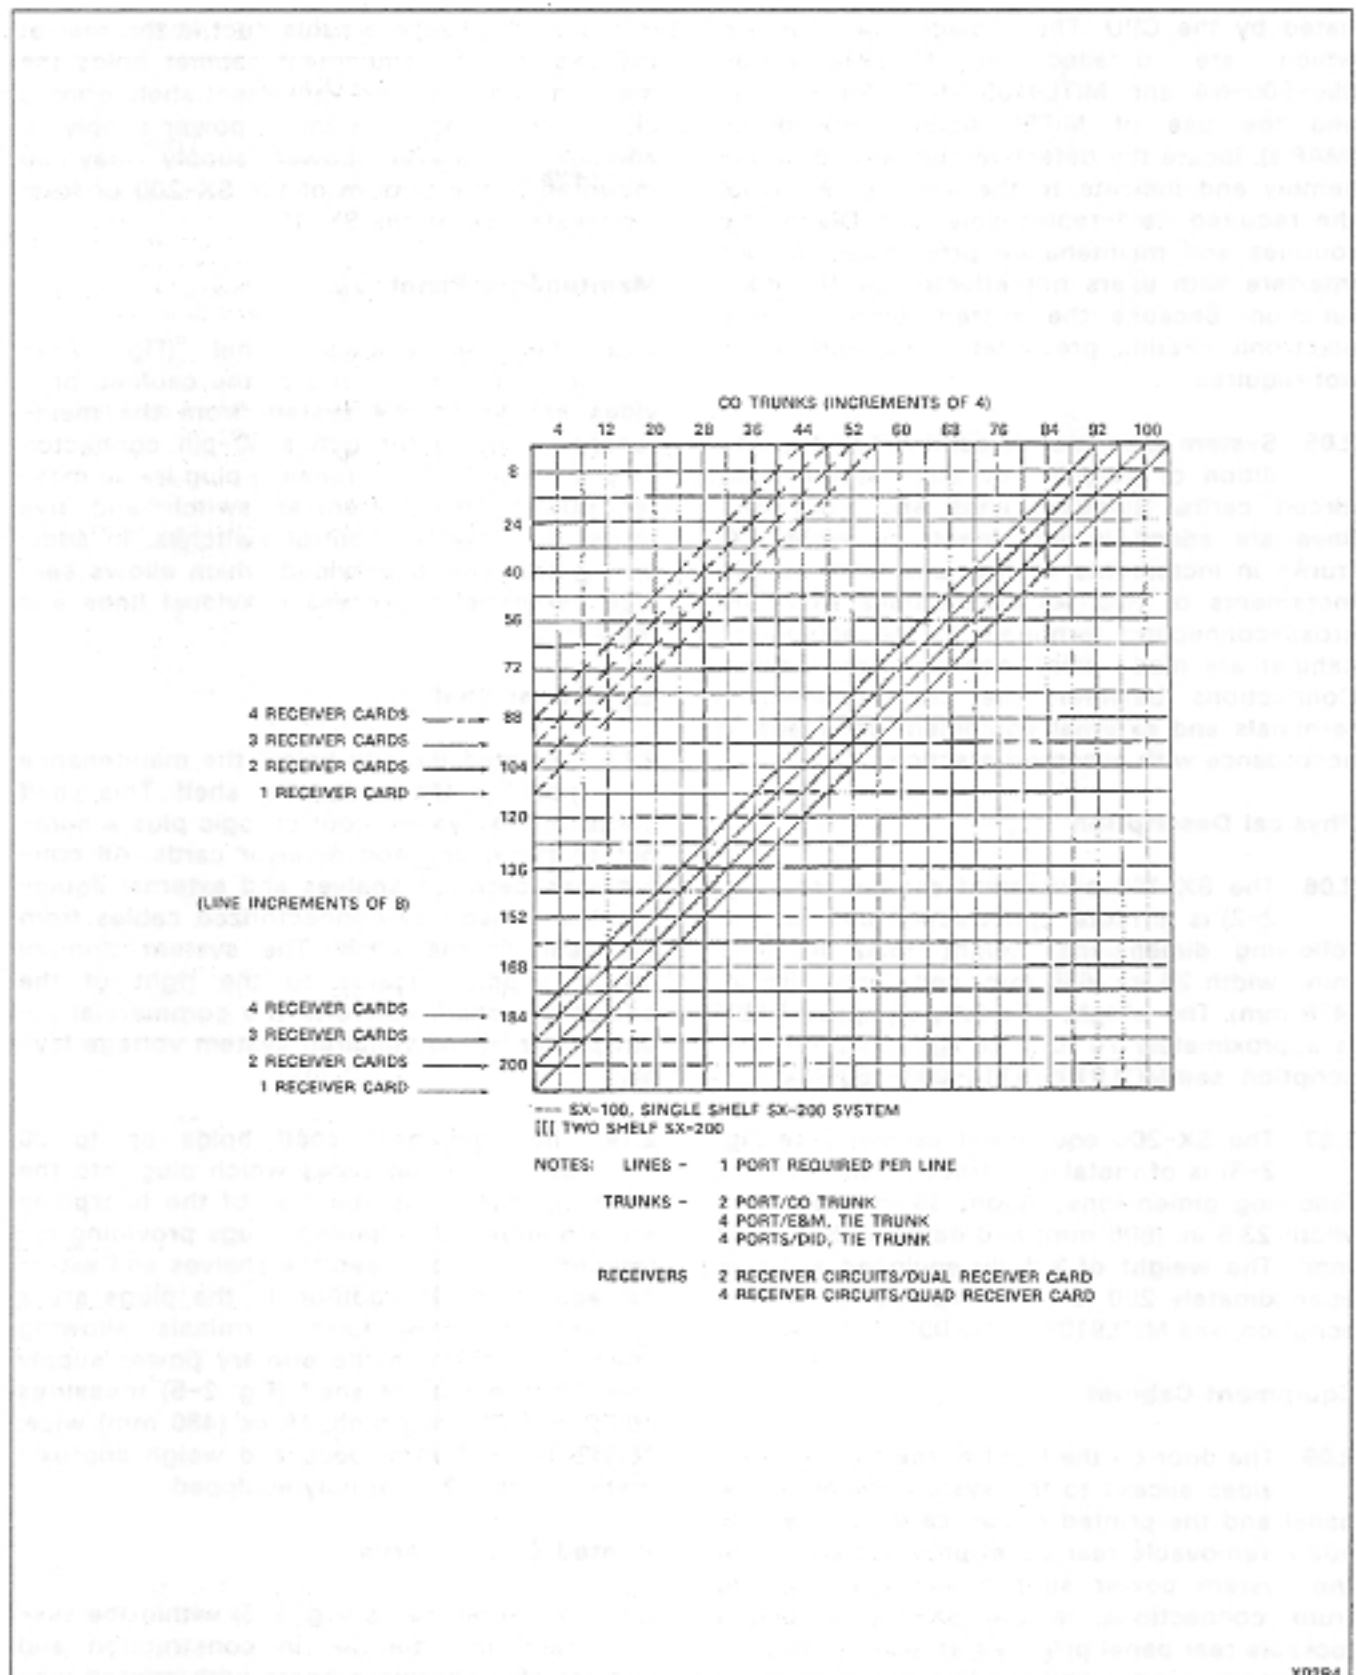

Fig. 2-1 Maximum Line and Trunk Configuration
capacity of 256 ports. Two hundred and eight of these ports are available for assignments to lines, trunks and additional receivers. The remaining 48 ports are reserved for common control functions. Fig. 2-1 shows the maximum standard line and trunk configuration. When the SX-100/SX-200 is used with the SUPERSET 4, a maximum of 64 Supersets may be used (each SUPERSET 4 requires one port). The SUPERSET 4 requires a SUPERSET 4 Line card (eight Supersets per card). Standard telephone sets are not compatible with the SUPERSET 4 Line card. The remaining card slots can be assigned to standard telephones or may be used for lines, trunks and additional receivers as required. The SX-100/SX-200 PABX's are electrically compatible with most existing extension, key-telephone, Private Branch Exchange (PBX) and Central Office (CO) equipment, and provide: